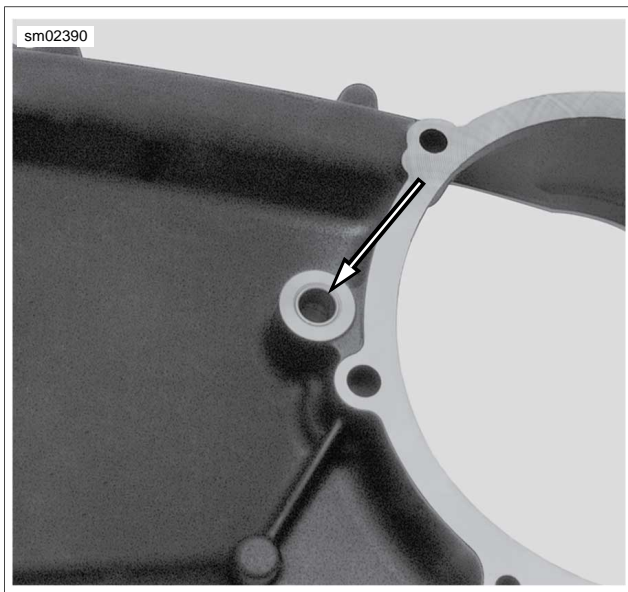

Figure 6-25. Shifter Shaft Bushing
1. See Figure 6-25. Press out old bushing from clutch side of housing. Inspect the bushing bore to verify that it is clean and smooth.